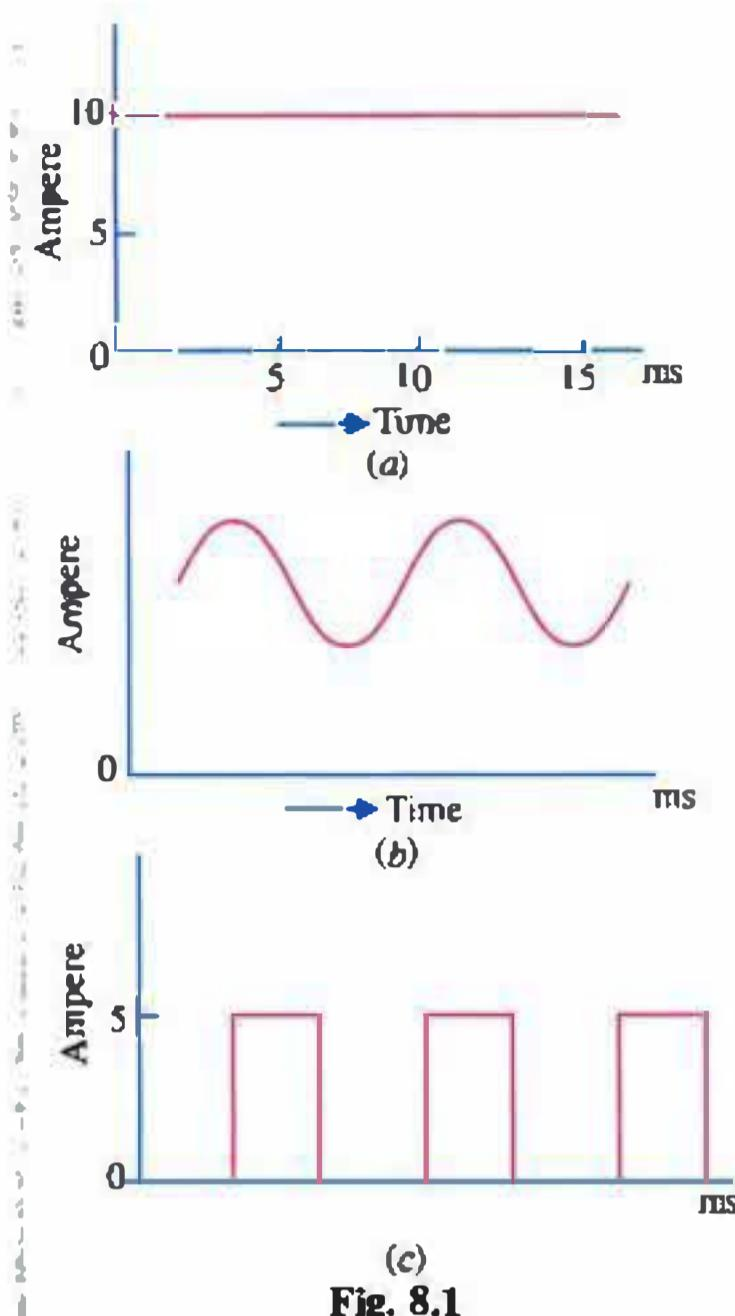

Fig. 8.1
**S**o far we have considered direct current (dc) which is produced by a voltage source whose terminals have fixed polarity i.e., whose poles do not change their polarity with time. Hence, they provide a current whose direction flow does not change with time. However, this direct current may be steady (constant in value as in Fig. 8.1 (a) or fluctuating (pulsating as in Fig. 8.1 (b) or may be interrupted into short pulses as shown in Fig. 8.1 (c). Main point is that its direction of flow remains the same i.e., from the positive terminal of the voltage source to its negative terminal. Examples of voltage sources are : electric cell, battery and d.c. generators etc.